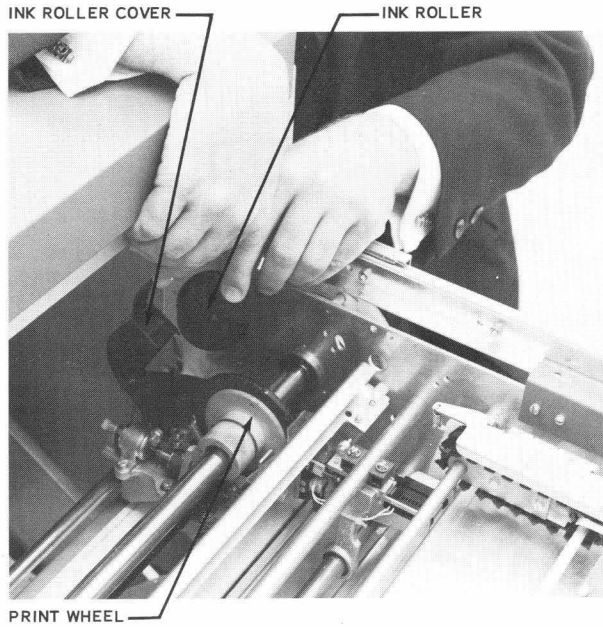

Figure 27. Removing Ink Roller.
3. Lift the ink roller cover up and back and remove the ink roller (see Figure 27).